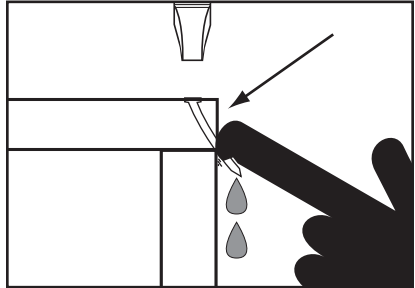

Figure 11. Example of nail deflection.
4. Before pulling the trigger, make sure your free hand and other body parts are positioned out of the way of a potential path of a nail in case of deflection (illustrated below in **Figure 11**).